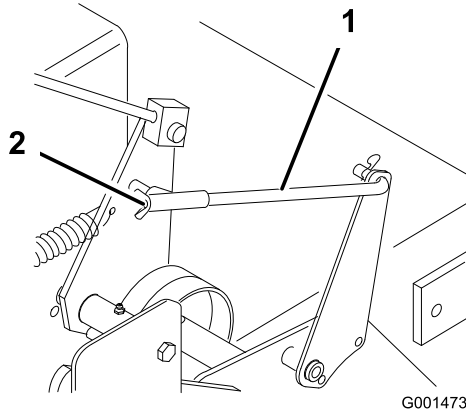

Figure 38
5. To adjust the brake, rotate the wing nuts on the brake rods (Figure 38).